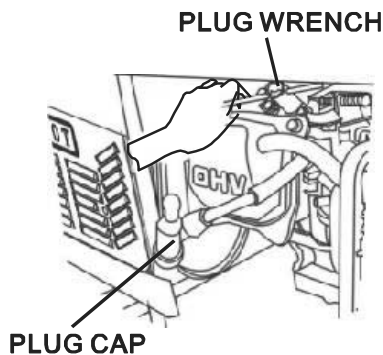

Figure 25- Removing the spark plug cap
2. Unscrew the spark plug from the generator using the spark plug wrench included with this product (see figure 25).